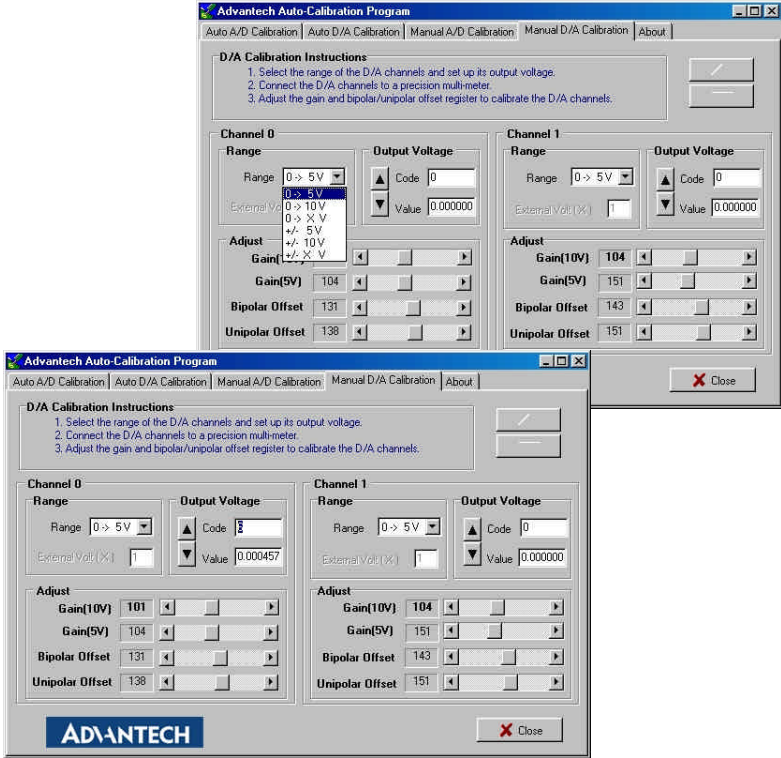

Fig. 5-15 & Fig. 5-16: Selecting D/A Range and Choosing Output Voltage
Step 2: For example, choose channel 0; select the Range and select the wished output voltage code or value from the radio buttons (Fig. 5-15 and Fig. 5-16).